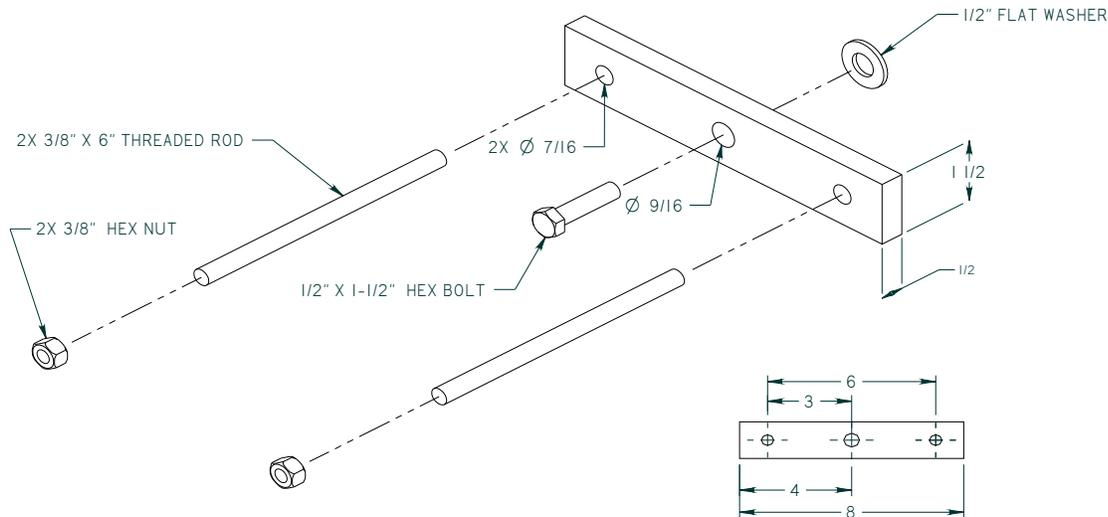
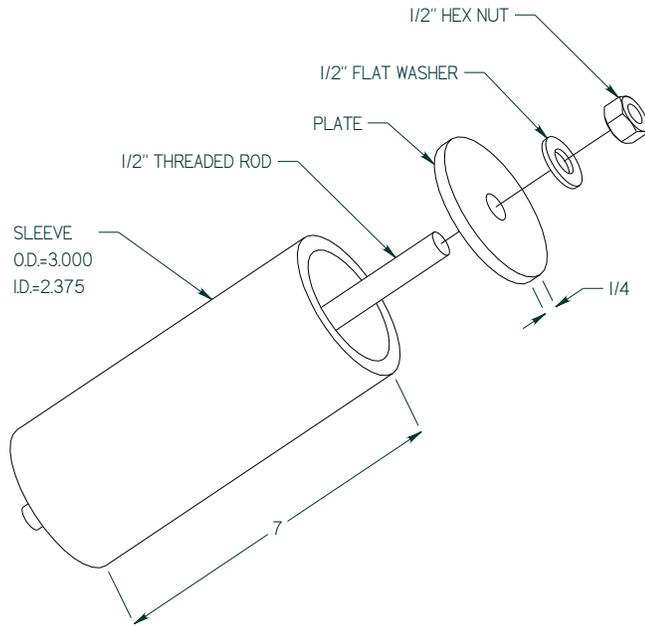

Figure 2
Figure 3
Procedures described in manual require common mechanics hand tools, a torque wrench, dial indicator and suitable lifting device (such as) slings. They also require fabrication of a strong-back as illustrated in figure 2 for bearing removal and a bearing installation tool as illustrated in figure 3.
7. Remove o-ring (4) from inboard cover (2).
8. Remove Nylok shoulder bolt (26) and allow sleeve bushing (5) to slide out of its bore and rest against the power rotor inboard thread face.
9. Remove Nylok fasteners (3) and bearing retainer plate (11).
10. Remove outer Truarc ring (7).
11. Remove bearing (6) as follows: (See Figure 2 below for Strongback drawing)
- a. Install threaded rods 180° apart in two bearing retainer (11) holes in inboard cover (2).
- b. Place ½" washer on end of power rotor (16) and then place strongback plate shown in figure 2 over threaded rods and against washer.
- c. Install a ½" bolt through strongback and tighten into threaded hole in end of power rotor (16).
- d. Install nuts on threaded rods and then thread nuts evenly to begin pressing power rotor (16) through ball bearing (6) until power rotor is completely off bearing (6).
- e. Once power rotor (16) is off bearing, remove 1/2" bolt and remove power rotor (16) from inboard cover (2).
Method 1: See Figure 3 for Ball Bearing Installation Sleeve Assembly.